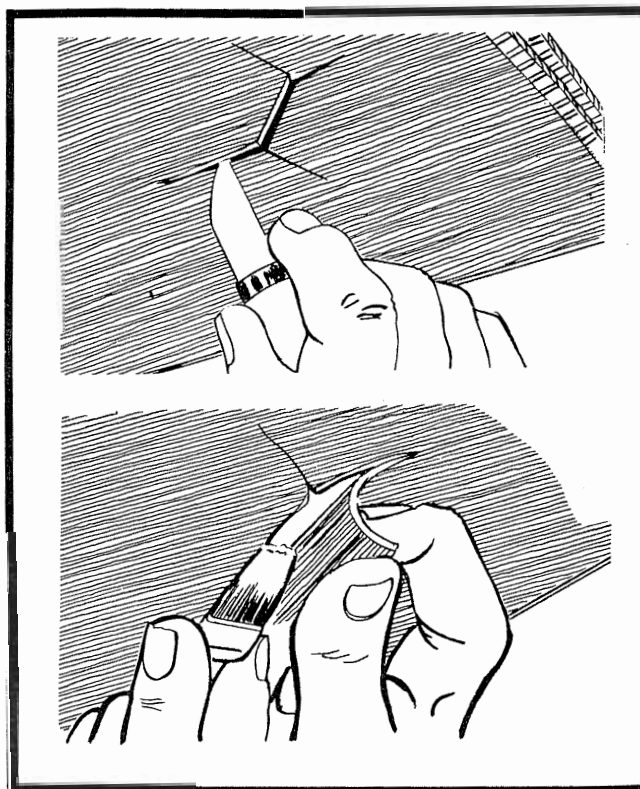

Figure 16-47. Repair of Blisters
1. Blisters (see figure 16-47).